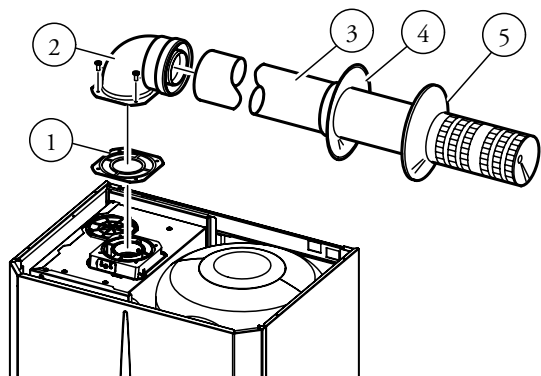

Fig. 1-14 Фиг. 1-14
Horizontal intake kits - exhaust Ø 60/100. Kit assembly (Fig. 1-14): install the bend with flange (2) on the most internal hole of the boiler inserting the seal (1) and tighten using the screws present in the kit. Engage the terminal pipe (3) with the male side (smooth), into the female side (with lip seal) of the curve (2) until it stops, making sure the relevant internal and external rings are fitted, this will ensure hold and joining of the elements making up the kit.
The kit includes (Fig. 1-14):